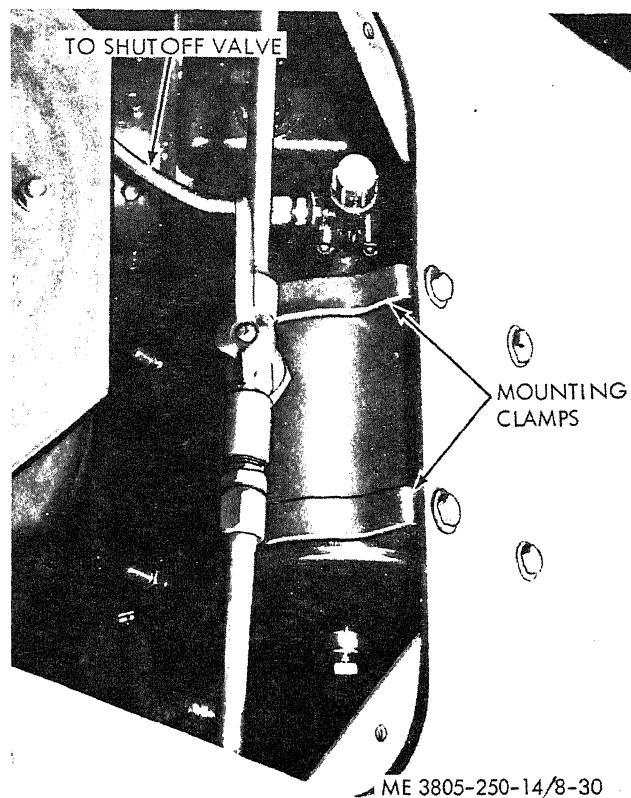

Figure 8-30. Auxiliary reservoir.
(1) **Removal.** Refer to figure 8-30.